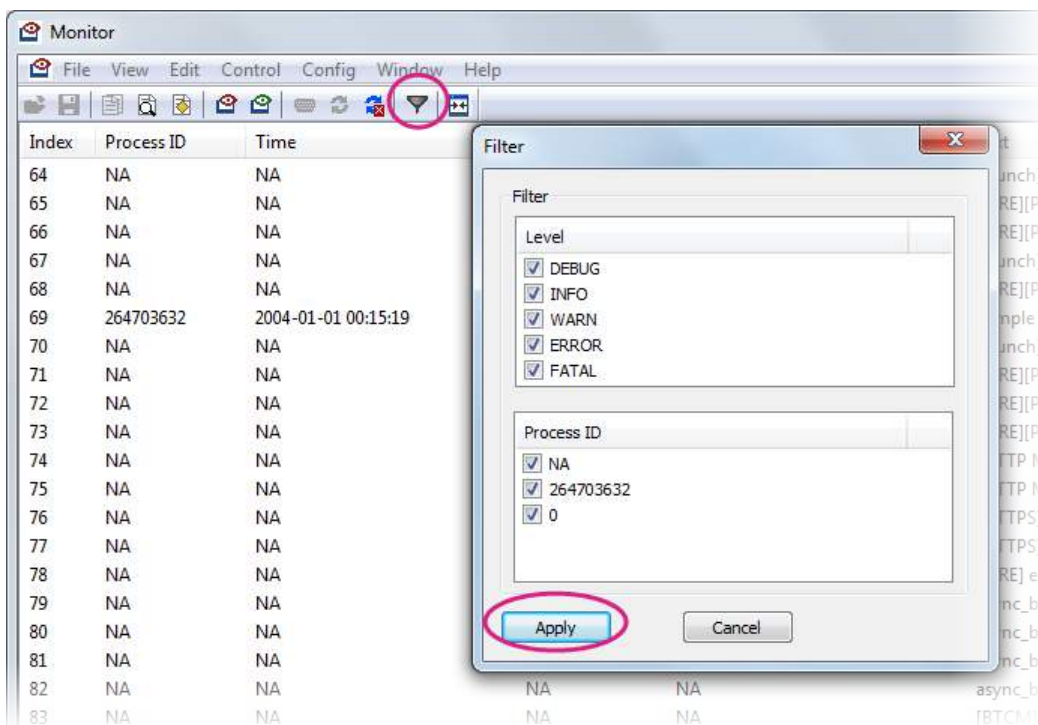

Figure 36 Log Filter window
- You can also create filters for different log levels with the filter toolbutton, as shown in Figure 36. Click **Apply** to invoke the filter settings.